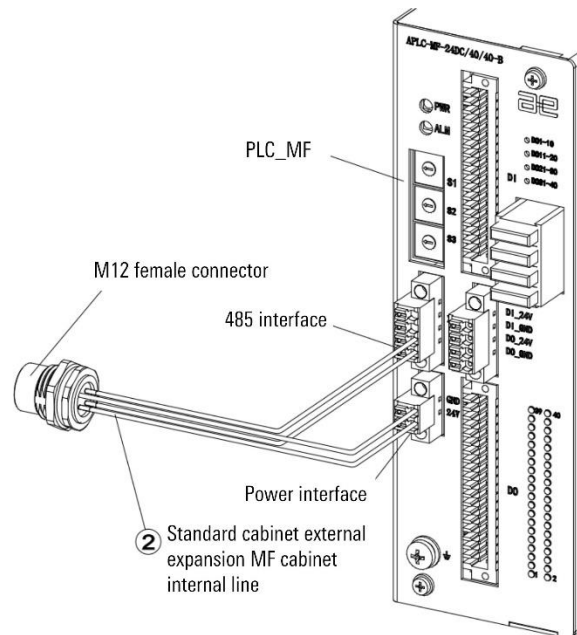

Figure 17-9 Diagram of connecting external expansion MF
- Step3. Connect the loose ends of the standard cabinet external expansion MF cabinet internal cables to the power interface and 485 interface of PLC\_MF respectively according to the drawing, and arrange the cables in the cabinet reasonably, refer to Figure 17-9.